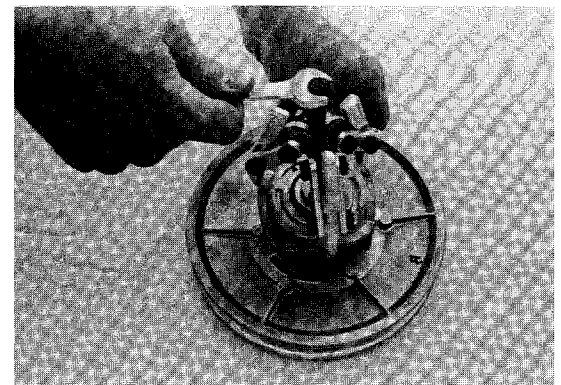

Figure 9-20
2. Place puller plug, CLUB CAR part #1014507, into the shaft bore and use a drive clutch cam puller, CLUB CAR part # 1014508, to remove the cam (7) from the fixed face hub (1) (**Figure 9-20**). Retain the key (5).
3. Remove the spring (6).
4. Slide the movable face (2) off of the fixed face hub (1).